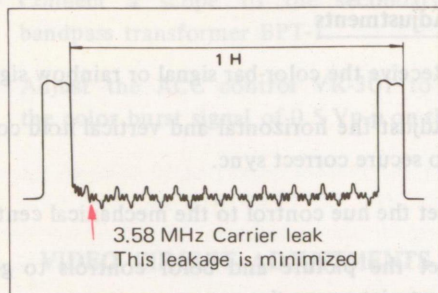

Fig. 4-4. Adjustment of 3.58 MHz traps using a gated-rainbow generator
5. Adjust the trap coil L401 to minimize the 3.58 MHz component on the waveform as shown in Fig. 4-4.